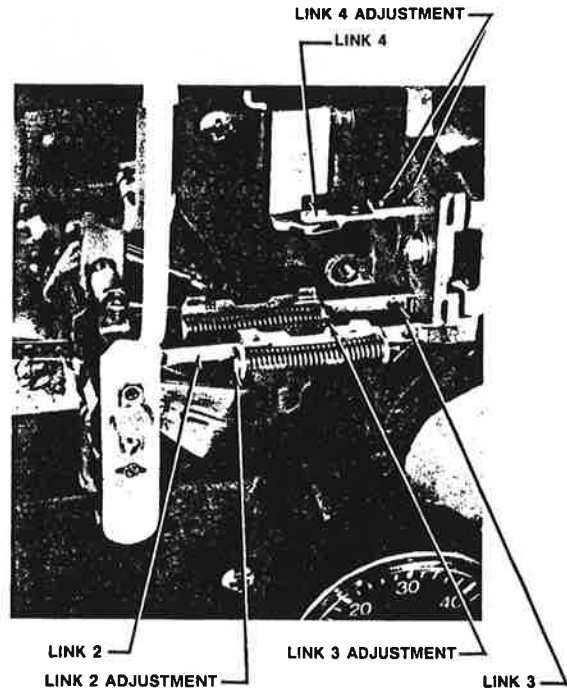

Figure 6-5. Link Location
1. Remove the two screws (key 6), and lift off the proportional band indicator cover (key 36).
2. Disconnect link number 3 from the set point beam assembly (key 23). Please refer to figure 6-5 for location of the link.
32. Attach link number 3 to the set point beam assembly (key 23). See figure 6-5.
1. Remove the two screws (key 6), and lift off the proportional band cover (key 36).
2. Disconnect link number 3 from the set point beam assembly (key 23). Please refer to figure 6-5 for link location.
7. While holding the proportional band knob, remove the screw and washer (keys 19 and 20) that hold the relay nozzle tubing assembly (key 18) to the frame.
9. Disconnect link number 2 from the flapper assembly (key 11). Please refer to figure 6-5 for location of link.
10. Disconnect link number 4 from the bellows bracket (key 31). Please refer to figure 6-5 for location of the link.